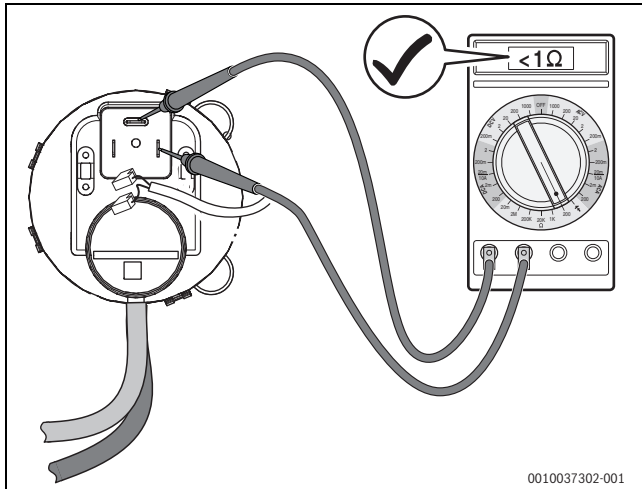

Fig. 88 Test the continuity of the differential pressure switch (differential pressure switch ok)
- Pull off power cables at the differential pressure switch and measure the resistance across the contacts (→ Fig. 88).